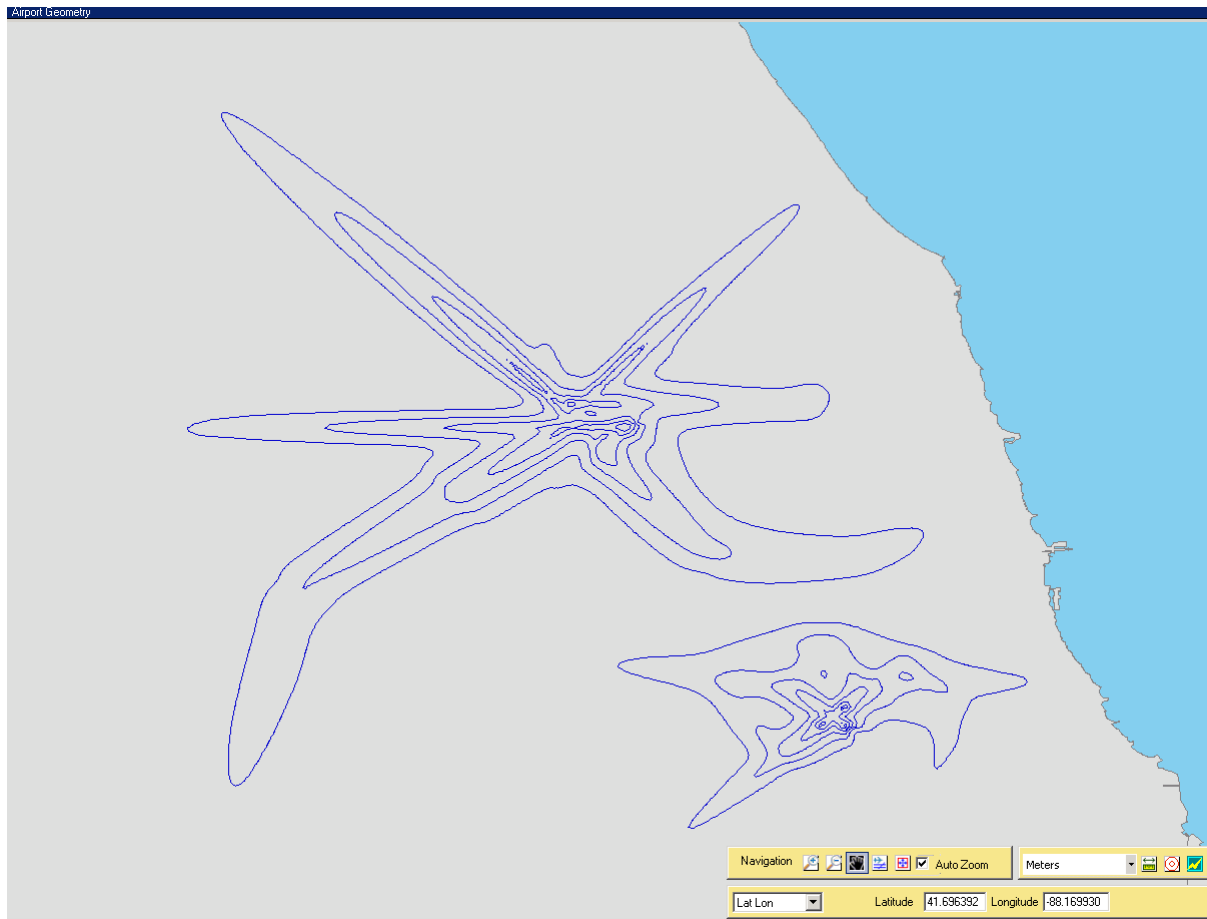

Figure 8-15 Noise Contour Shown in the Airport Geometry
- d. The dialog box will close. The contour graphic will appear in the *Airport Geometry* (Figure 8-15), and a new layer will be added to the *Tree Browser* under the *Noise Contour* category.